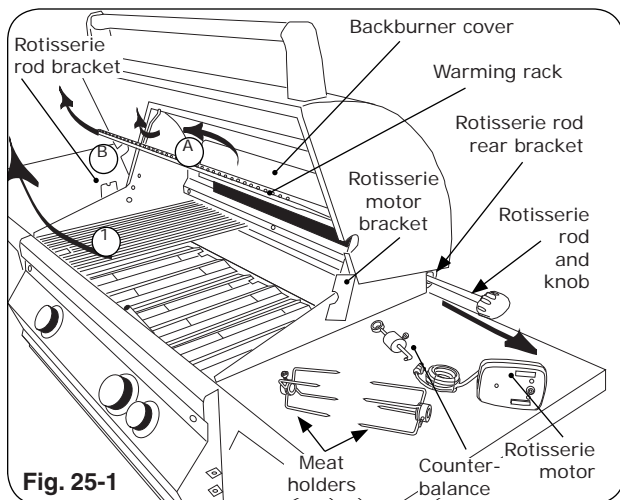
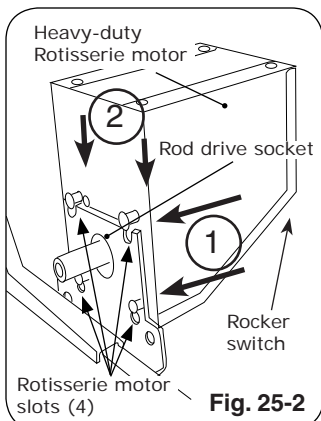
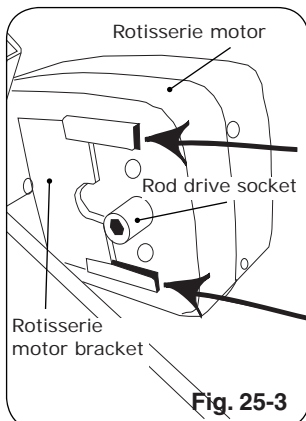

Fig. 25-1
Fig. 25-2
Fig. 25-3
2. Slide rotisserie motor fully onto motor bracket (right side, Fig. 25-1, Fig. 25-2 and Fig. 25-3).
3. Remove rotisserie rod from rear bracket (Fig. 25-1) and attach knob if necessary.